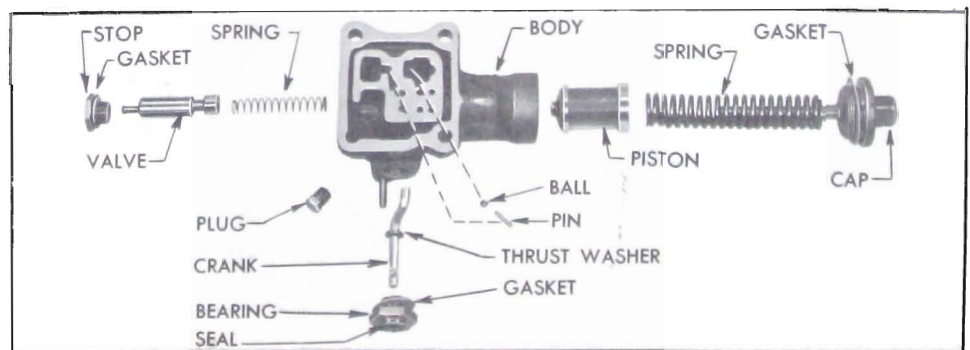

Figure 5-85—High Accumulator—Disassembled
2. Remove the pipe plug, cap, gasket, spring (2 in low) and piston from accumulator body. Keep parts separated so that same parts will be reinstalled in same body. See Figure 5-85.
3. On high accumulator only, remove clamp bolt, lever, bearing with seal, gasket, thrust washer and control valve crank from accumulator body, then remove valve stop with gasket, control valve and spring. See Figure 5-85.
11. On high accumulator only, install spring, control valve and stop, then install crank with thrust washer, bearing with new gasket and seal (grooved side inward), operating lever and clamp bolt. See Figure 5-85.
13. Install pipe plugs in both accumulator bodies and install check ball and retaining pin in the high accumulator body. See Figure 5-85.